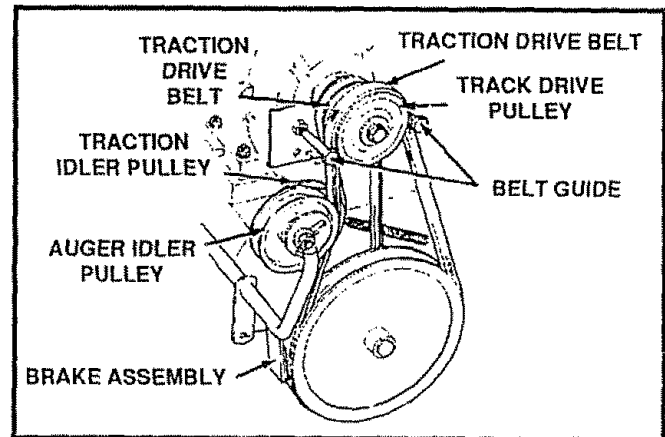

FIG. 30
- Remove the auger drive engine pulley. Removing the engine pulley allows you to remove the belt without removing the belt guides (See Fig. 30).
- Pull the spring loaded traction drive idler pulley (See Fig. 30) away from the traction drive belt.
**NOTE:** You may have to move the auger brake assembly (See Fig. 30) to remove the belt from the traction drive pulley.